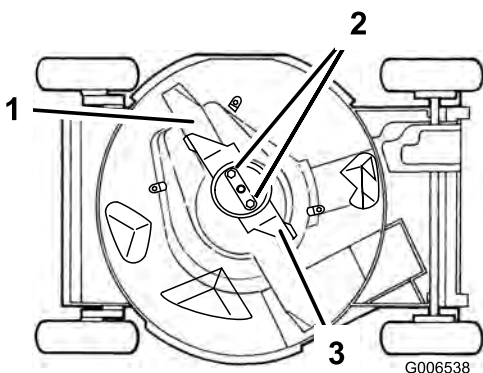

Figure 31
4. Tip the mower onto its **left** side (air cleaner up)(Figure 31).